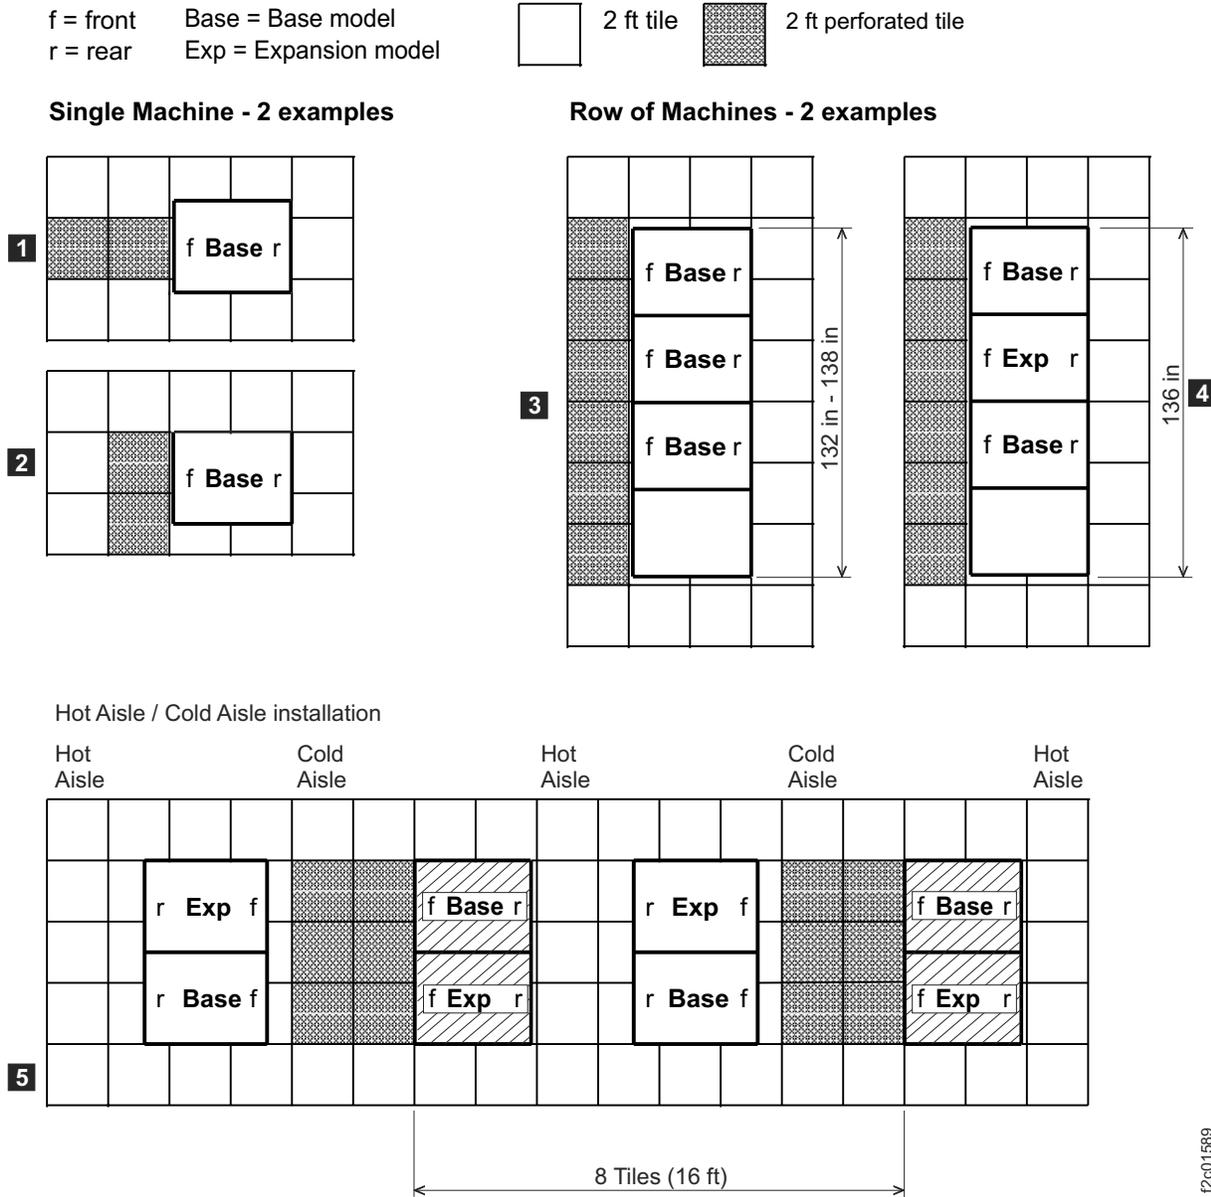

Figure 29. DS8000 layouts and tile setup for cooling
Note: Keep in mind that the dimensions represented in Figure 29 on page 171 might not be adequate for floor-load requirements.
- a. For a stand-alone base model, install two fully perforated tiles in front of each base model, as shown in Figure 29 on page 171 in the single-machine examples (1 and 2 in the figure).
- b. For a row of machines, install a row of perforated tiles in front of the machines as shown in Figure 29 (3 and 4 in the figure).
- c. For groupings of machines, where a hot aisle/cold aisle layout is used, use a cold aisle row of perforated tiles in front of all machines. A possible minimal configuration is shown in Figure 29 (5 in the figure).
Note: Keep in mind that the dimensions represented in Figure 29 might not be adequate for floor-load requirements.